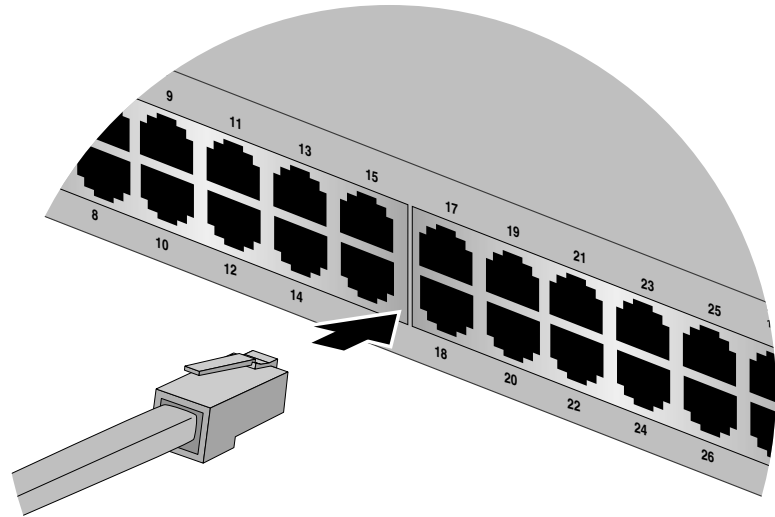

Figure 39 Connecting the Twisted Pair Data Cables
1. Connect the twisted pair data cables to the RJ-45 ports on the switch, as shown in Figure 39.